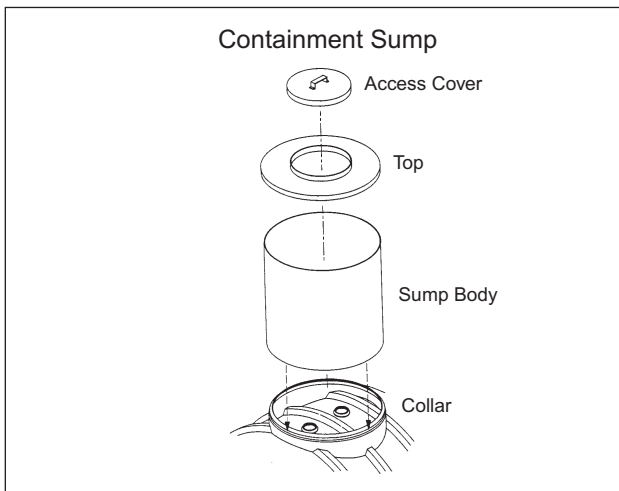
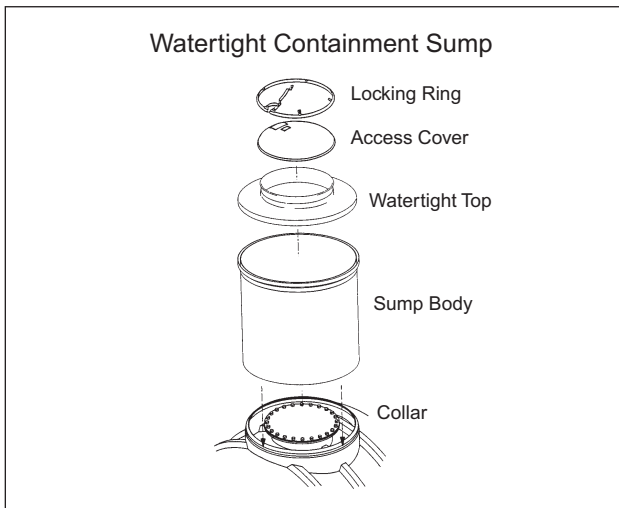

FIGURE 16-1
FIGURE 16-2
16.1.3. Visually inspect all pieces and parts to make sure that no shipping or handling damage has occurred. If any components are missing, contact the UST coordinator at the Xerxes plant nearest you. (See FIGURE 16-1 or FIGURE 16-2.)
16.1.5. If conditions may cause groundwater to rise above the containment sump top or may cause surface water to drain into the containment sump top, use a watertight containment sump top and cover. (See FIGURE 16-2.)